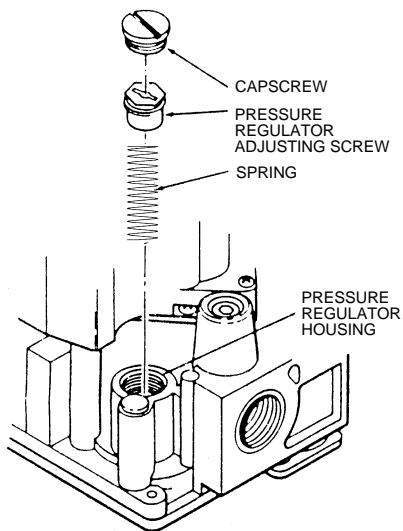

FIGURE 2. CONVERTING HONEYWELL VR200H & VR8205H CONTROLS FROM NATURAL GAS TO L.P. GAS OPERATION
B. Convert Gas Valve to LP Gas (See Figures 2 & 3)